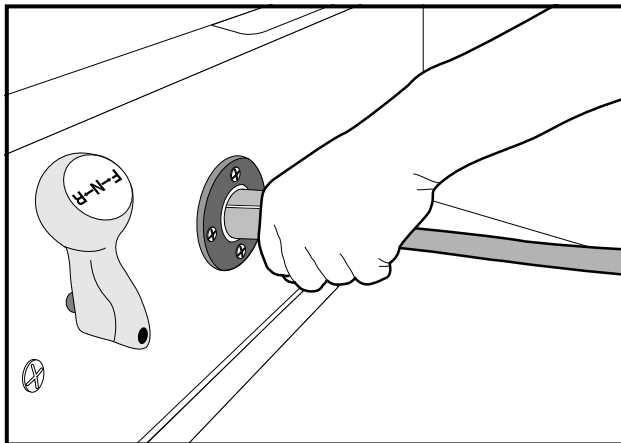

FIGURE 23
- DO NOT ROCK OR BEND THE PLUG. TO CONNECT THE CHARGER PLUG TO THE VEHICLE RECEPTACLE, GRASP THE PLUG HANDLE AND PUSH THE PLUG STRAIGHT INTO THE RECEPTACLE (SEE FIGURE 23).
Insert the charger's DC plug into the vehicle's receptacle. The charger will turn on two to ten seconds later (**Figure 23**).